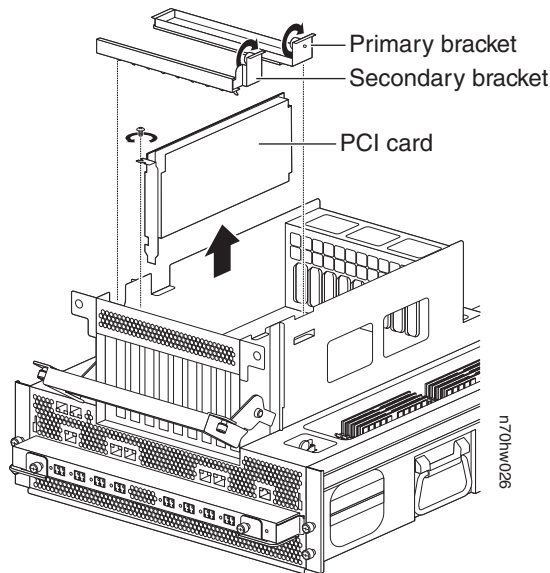

Figure 24. Removing the NVRAM6 adapter
5. With the motherboard tray extended back, remove the NVRAM6 adapter by completing the following substeps, using Figure 24 on page 52 for reference: